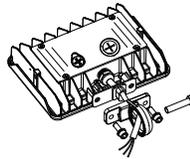

Figure 1-2
- Match the hole of hardware and gasket mat with **Knuckle Bracket Part A**, pass cable through and fix them to the fixture with the **Pivot Bolts**. (Figure 1-2)